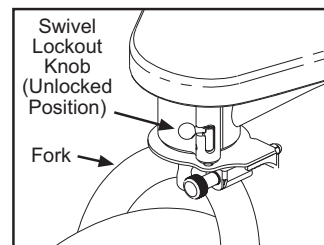
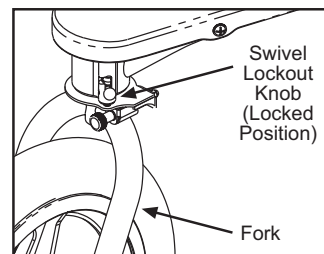

Fig. 10 Swivel Lockout - Unlocked Position (Swivel Mode)
Fig. 11 Swivel Lockout - Locked Position (Jog Mode)
6. SWIVEL LOCKOUT: The Revolution Duallie stroller can be used in one of two modes. The stroller can be used as a swiveling wheel stroller (Swivel Mode) when the Lockout Knob is in the unlocked position (Fig. 10). Or, it can be used as a fixed wheel stroller (Jog Mode) when the swivel Lockout Knob is in the locked position (Fig. 11). To change from Swivel Mode to Jog Mode, lift and slide the Lockout Knob (Fig. 10) up and all the way to the right. Then release the knob, and it will snap down. Next, rotate the fork until the pin engages and locks the fork in position. You are now ready to use the stroller in Jog Mode. To change the stroller back to Swivel Mode, lift the Lockout Knob and rotate it to the left.